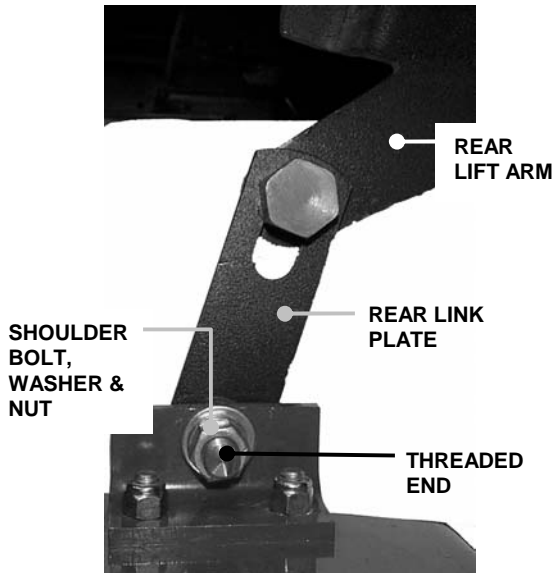

FIGURE 3.11
5. Remove shoulder bolts, washers and nuts from rear lift arm. See Figure 3.11.